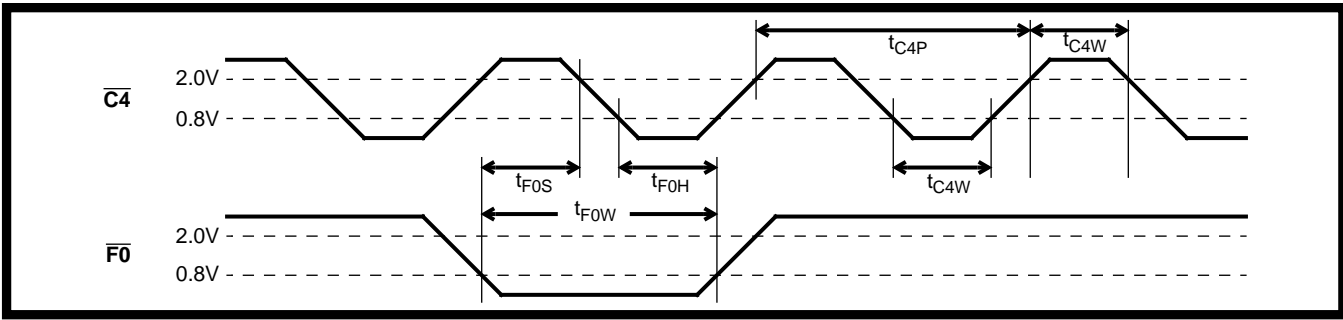

Figure 16 - C4 Clock & Frame Pulse Alignment for ST-BUS Streams in DN Mode
① Duty cycle is measured at  $V_{DD}/2$  volts.
**AC Electrical Characteristics† - Clock Timing - DN Mode (Figures 16 & 17)**